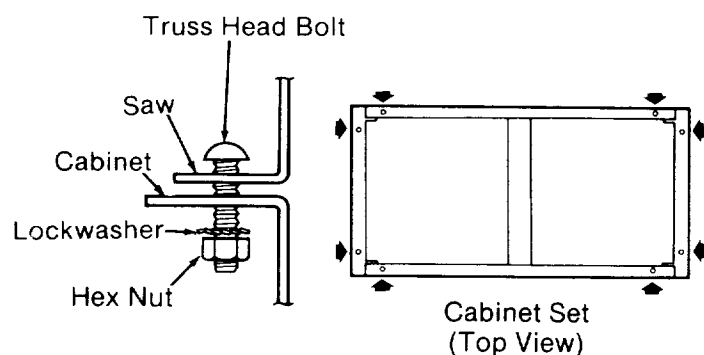

Fig. 27
2. Fasten the *saw* to the cabinet with eight truss head bolts. Put a lockwasher and hex nut on each bolt and tighten using a 7/16 inch wrench or socket. (Figure 27)